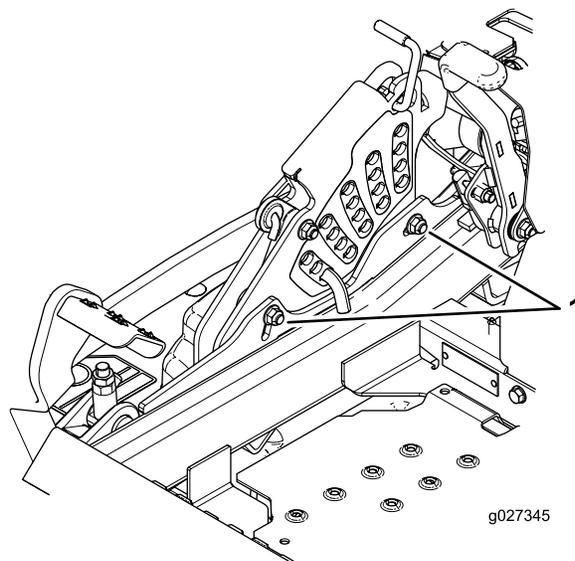

Figure 111
11. To adjust the single-point system, loosen the 2 bolts at the bottom of the height-of-cut plate (Figure 111).
13. Tighten the 2 bolts at the bottom of the height-of-cut plate (Figure 111).